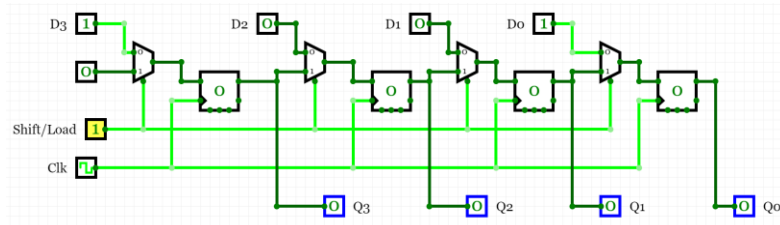

Figure 3: 4-bit Shift/Load' Register
c. A 4-Bit load shift register, shown in figure 3, has a function table of. Q^- denotes the previous value before the clock cycle.